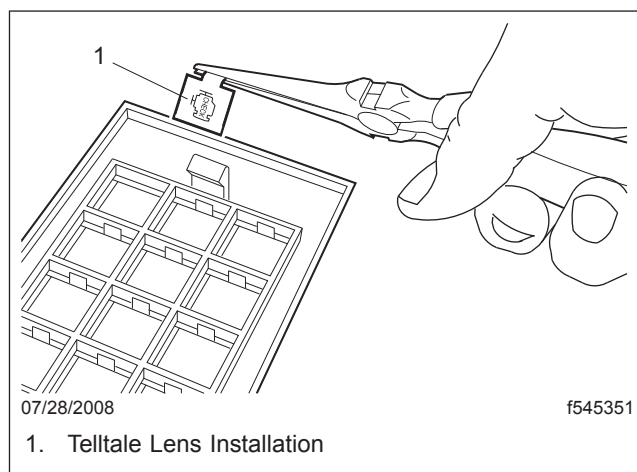

Fig. 3, Telltale Installation
4. Place the replacement telltale in its correct slot the same way it was removed. Properly orient the telltale so the text is readable from the front, then slide the telltale into its slot. See Fig. 3.